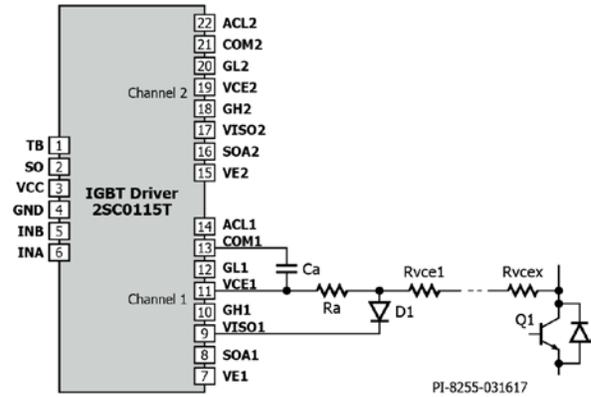

Figure 6. Standard Setting for IGBT Short-Circuit Detection.
All SCALE gate driver cores are able to detect and safely turn-off a short-circuit condition within this 2  $\mu$ s time frame. To achieve this, only minor adaptations to the standard setting for IGBTs are required, as demonstrated in the following example using a 2SC0115T SCALE gate driver core. Figure 6 illustrates the typical settings for short-circuit monitoring circuitry as can be found in the corresponding manual (2) (only one channel shown). The response time is set by capacitor Ca and resistor Ra. Typical values for DC-link voltages greater than 550 V are, for instance, Ca = 22 pF and Ra = 120 k $\Omega$ , which provide a response time of 5.9  $\mu$ s (2).